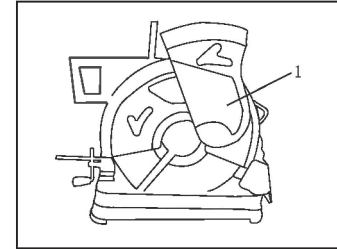

Fig1
1. install cut-off wheel, raise the safety guard cover, and then fit the cut-off wheel, outer flange, small flange, hex bolt onto the spindle in turn. Press the shaft lock so that the wheel cannot revolve and use the socket wrench to tighten the hex bolt by turning it clockwise, and then release the shaft lock to come back the original position. (Fig1&2)